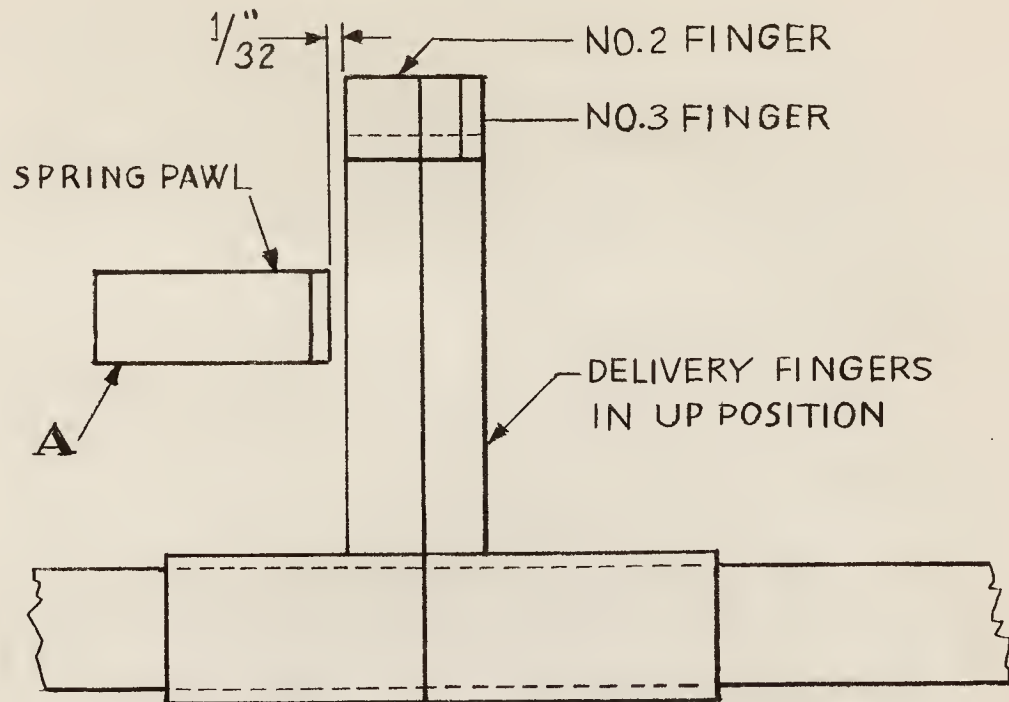

FIG. 23
When the No. 2 and 3 fingers pivot upward and return to the right to their normal position as the delivery slide returns, they depress a spring latch in the face plate. After the fingers move past the spring latch, it resumes its normal position and prevents any movement of the No. 2 and 3 fingers to the left, until the square shaft pivots with the No. 2 and 3 fingers. See Figure 23 for proper clearance between the spring latch and the No. 2 finger.
(F) Delivery Lever (Fig. 23)